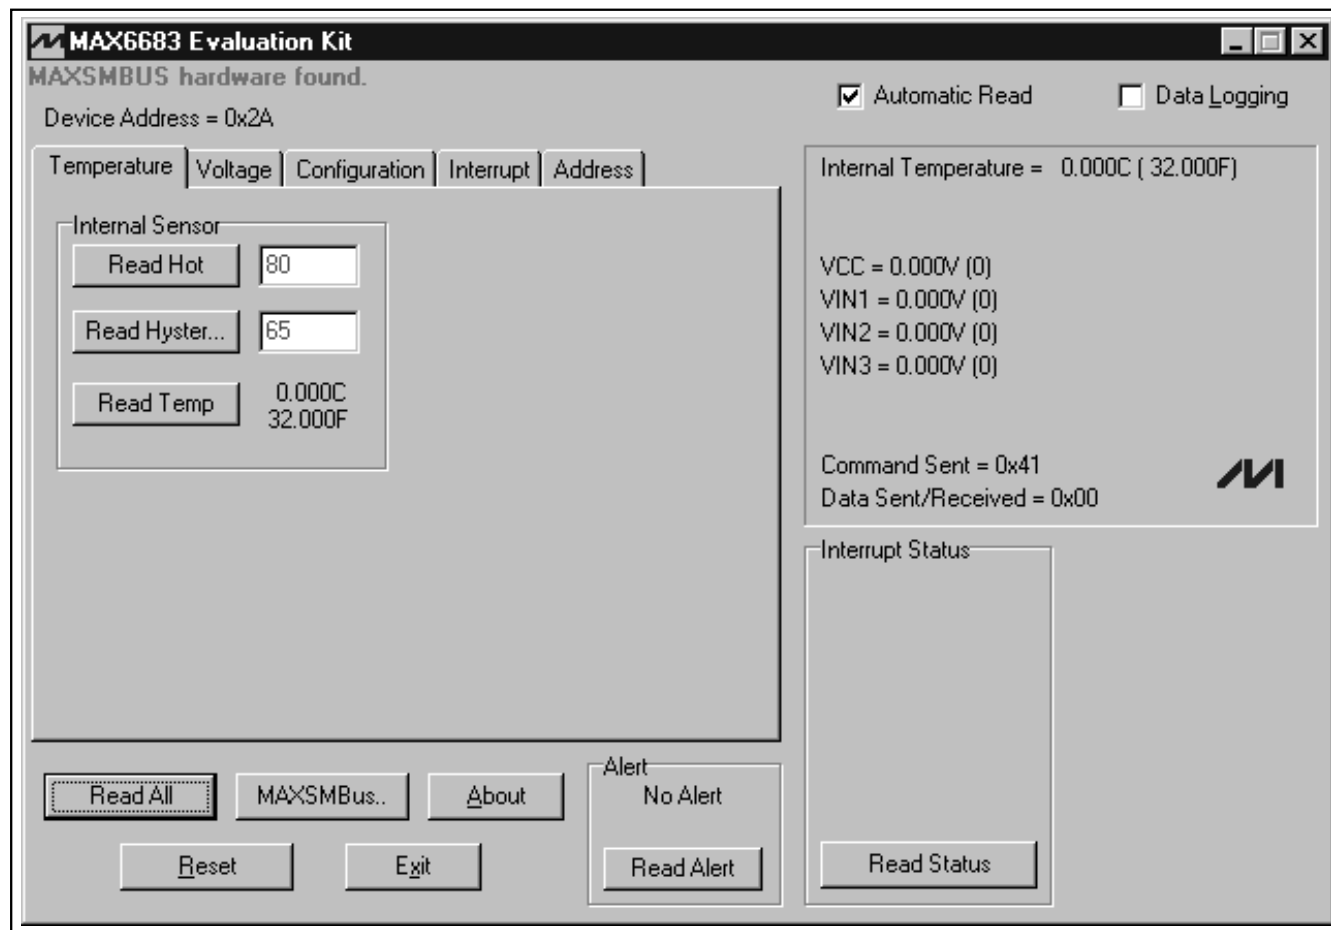

Figure 1. MAX6683 EV Kit User-Interface Panel
- 14) Wait until the program automatically detects the address of the MAX6683 and displays the user-interface panel (Figure 1).